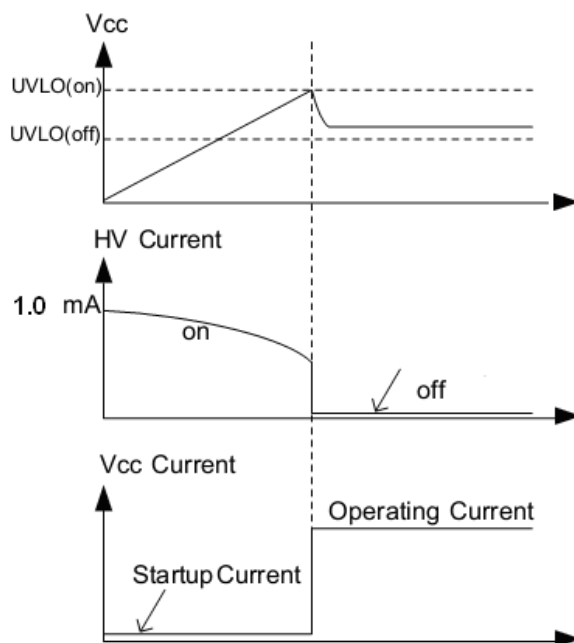

Fig. 1
***Latch PIN FUNCTION OPTION (See below Fig.1)**
GR8875N series implements a high-voltage startup circuit, during the startup; high-voltage current sources are turned on and provide the start-up current as well as charge the Vcc capacitor. When the Vcc voltage is higher than the UVLO (on) threshold, the high-voltage current source will be turned off. Its leakage current is very low (30uA), which only consumes little power. By using such configuration, the traditional startup resistor is not needed and power consumption will reduce. (Refer to Fig. 1).
respectively. This hysteresis shown in Fig.1 ensures that the start-up capacitor will be adequate to supply the chip during start-up.